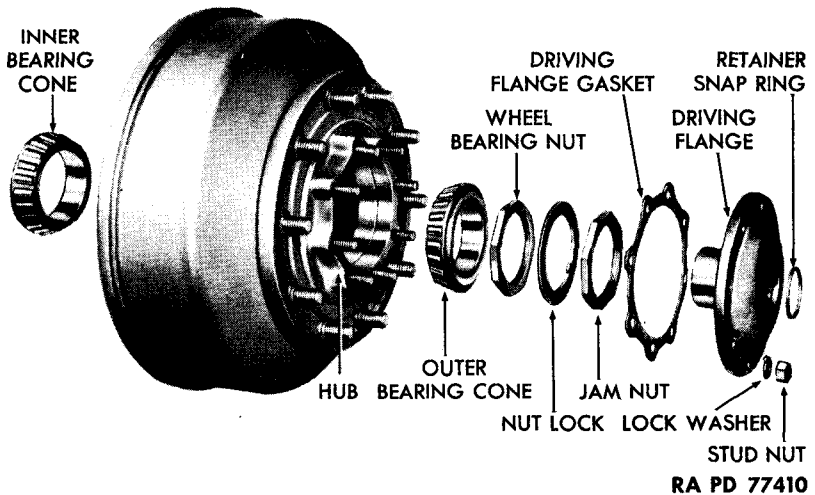

Figure 81 — Front Hub Disassembled
a. Description (figs. 81 and 82). The hubs and wheel bearings are attached at each end of the front and rear axle shafts. The hub assembly is installed on bearings, and secured by a bearing nut. Bearings are packed with lubricant to reduce friction. A felt oil seal and
b. Adjustment (figs. 81 and 82). Block wheels to prevent vehicle from moving, and raise wheel from floor with lifting device. Remove retainer snap ring from front hub. Remove the 8 stud nuts and lock washers which secure axle shaft driving flange to hub assembly, and remove flange and gasket. **NOTE:** For rear axle, remove the 12 stud nuts and lock washers, and remove axle shaft. Remove wheel bearing jam nut and the nut lock, which is called jam nut washer on rear axle. Rotate wheel alternately in both directions while tightening wheel bearing nut until wheel binds. Back nut off about one-quarter turn to permit free rotation of wheel without excessive play.
c. **Removal** (figs. 81 and 82). Remove wheel (par. 133). If front wheel, pry retainer snap ring from driving flange, and remove driving flange jam nut and nut lock. If rear wheel, remove rear axle shaft with attached driving flange as follows: Remove wire seal attached to the 2 axle shaft puller screws. Remove the 12 nuts, lock washers, 3 dowels, and dowel washers which secure flange to hub assembly. Tighten puller screws to start shaft out. Pull shaft and attached flange from axle, and remove wheel bearing nut. Pry wheel outer bearing cone alternately on each side, remove, and pull hub out. Pry off wheel inner bearing cone, and remove felt oil seal and the 2 retainer washers. Remove the 10 stud nuts from inner ends of wheel attaching studs, and lift brake drum from hub. Use a clean cloth to wipe lubricant from all parts.
d. Installation (figs. 81 and 82). Position brake drum on hub, and install the 10 stud nuts which attach drum to hub. Install new felt oil seal and 2 retainer washers. Soak felt thoroughly with new engine lubricant, and pack bearings with lubricant (par. 17). Fit wheel inner bearing cone to shaft, taper out, and install hub. Fit wheel outer bearing cone to shaft, taper in, and screw bearing nut on shaft. Finish wheel installation (par. 133). Install rear axle shaft, and attach driving flange as follows: Screw out puller screws to original position. Position shaft in axle, and install the 12 nuts, lock washers, 3 dowels, and dowel washers which secure it to hub assembly. Wire rear axle puller screws. Install wheel (par. 133).
(1) **DESCRIPTION** (fig. 81). Tires are 10-ply, lug-tread, bus-balloon type.